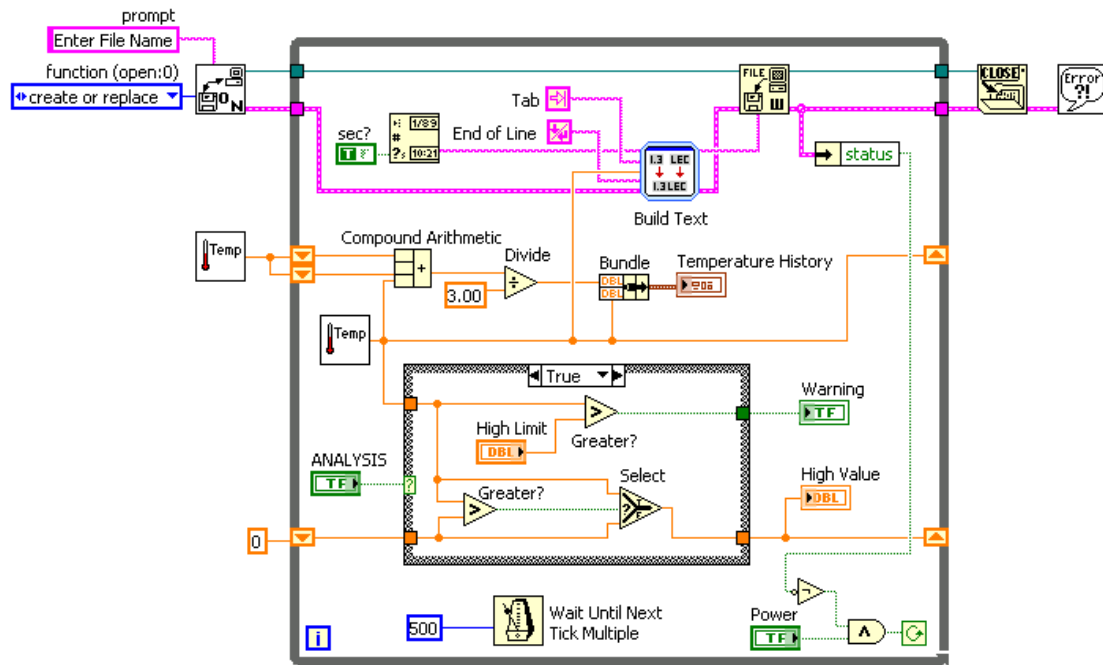

Figure 9.25
1. Edit the block diagram as shown in Figure 9.25.